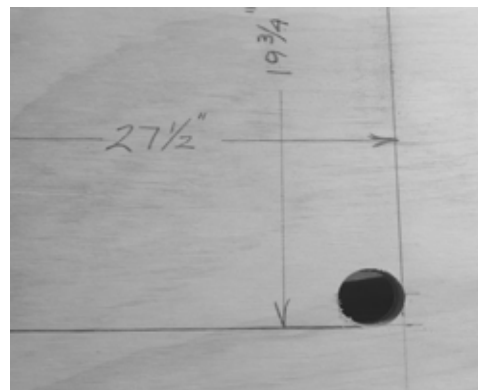

Figure 1
1. Create a template out of plywood with a rectangular hole measuring 27 1/2" x 19 3/4". The corners should be cut out with a 1" hole saw as shown in Figure 1. Smooth the edges so that a nice line can be drawn around the template.